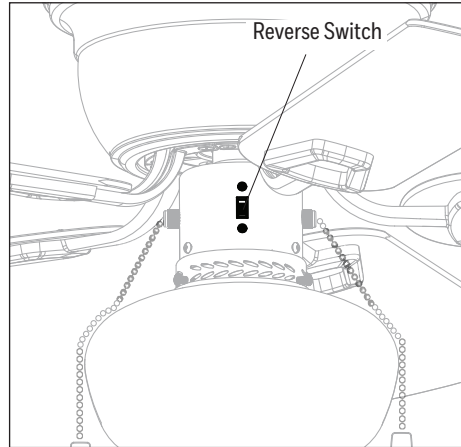

Figure 5.2
2. Using a ceiling fan will allow you to raise your thermostat setting in summer and lower your thermostat setting in winter without feeling a difference in your comfort. **In warmer weather**, push the reverse switch down for downward airflow creating a wind chill effect. **In cooler weather**, push the reverse switch up for upward airflow that can help move stagnant, hot air off the ceiling area (Figure 5.2). **Important:** Wait for the fan to stop before moving the reverse switch. The reverse switch must be set either completely up or down in order for the fan to function correctly. If the reverse switch is set in the middle position, the fan will not operate.